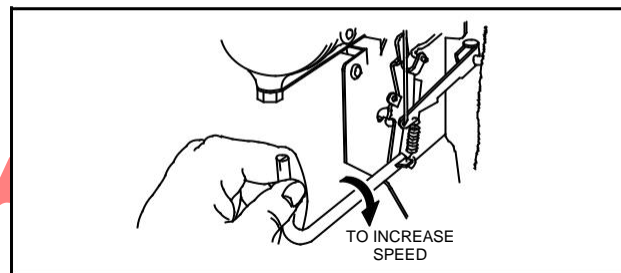
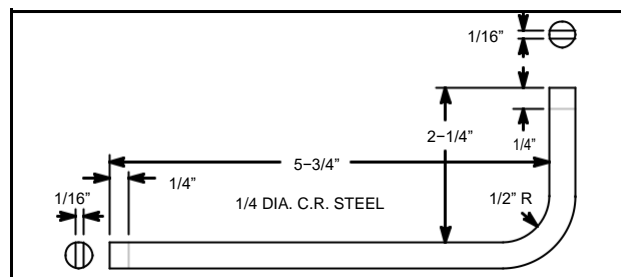

Fig. 349 – ADJUSTING TOP-NO-LOAD RPM
Fig. 350 – TANG BENDING TOOL
2. Use Tool #19229, tang bending tool, to bend spring anchor tang to obtain the proper top-no-load RPM, Fig. 349. If Tool #19229 is not available, make tool, Fig. 350.